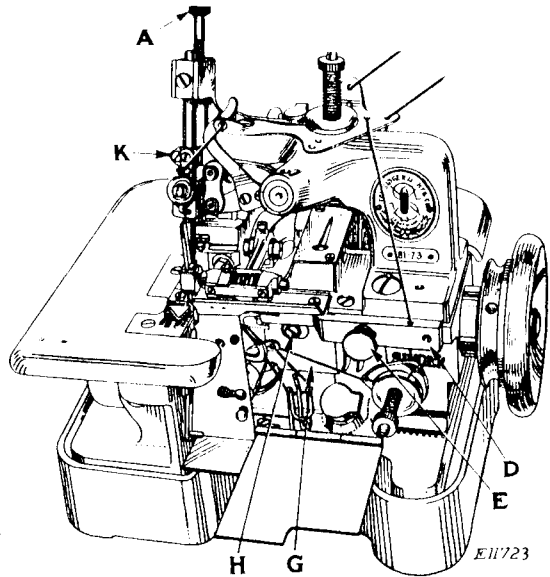
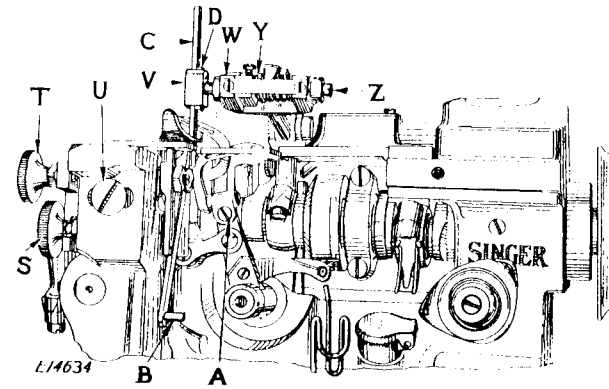

FIG. 13. ADJUSTMENTS ON THE MACHINE
FIG. 16. ADJUSTMENTS ON THE MACHINE
The pressure on the material is regulated by means of the thumb screw (A, Fig. 13). To increase the pressure, turn this thumb screw downwardly. To decrease the pressure, turn the thumb screw upwardly.
The length of stitch is regulated by means of the adjusting screw (H, Fig. 13) in the feed eccentric. **This screw faces directly outward.**
To change the length of stitch, turn the balance wheel until the lock screw in the feed eccentric appears in the hole of the cover (G, Fig. 13). **This screw faces slightly downward.** Loosen the lock screw. Then turn the balance wheel until the adjusting screw (H) is visible through the hole in the cover (G). Turn the adjusting screw (H) over to the right for a long stitch. Turn this screw over to the left for a short stitch. Then turn the balance wheel over until the lock screw appears and securely tighten this screw.
Now turn the balance wheel over from you until the needle bar has risen $\frac{3}{32}$ inch from its lowest position. The point of the left hand looper, on its loop taking stroke, should then be at the center of the needle, and the eye of the needle should be about $\frac{1}{16}$ inch below the looper point. If the needle bar is not at the correct height, loosen the pinch screw (K, Fig. 13) and move the needle bar upward or downward as required, then securely tighten the pinch screw (K).
The left hand looper should be set in the looper carrier by means of the screw (A, Fig. 16), so that the point of the looper on its loop-taking stroke passes as close as possible to the needle without striking it. The point of the right hand looper or spreader should pass at the recess back of the left hand looper eye as close as possible without touching it.
The lower knife (B, Fig. 16) should always be fastened in position when removing or replacing the upper knife. The lower knife is adjustable to the right or left and its position governs the position of the upper one, also the width of bight on the goods.
To Remove the Lower Knife (B, Fig. 16), loosen the thumb screw (T, Fig. 16) and draw the knife downwardly.
To Replace the Lower Knife, have the presser foot and feed down, press the upper knife holder (V, Fig. 16) toward the balance wheel, and push the lower knife upwardly so as to touch the presser foot without lifting it, then tighten the thumb screw (T, Fig. 16).
To Adjust the Trimmer Sidewise, loosen the thumb screw (E, Fig. 13) and move the extension bracket (D, Fig. 13) to the right or away from the upper knife, loosen the screw (U, Fig. 16) and turn the thumb screw (S, Fig. 16) inwardly or outwardly until the trimmer is in the desired position, then securely tighten the screw (U). Move the extension bracket (D, Fig. 13) back toward the upper knife, leaving just enough clearance between the upper knife and the bracket so as to allow free movement of the upper knife, then tighten the thumb screw (E, Fig. 13).
To Remove the Upper Knife (C, Fig. 16), loosen the screw (Z, Fig. 16) at the end of the knife holder, press the knife holder (V, Fig. 16) toward the balance wheel and remove the knife.
When replacing the Upper Knife, have the knife holder in the lowest position and pressed toward the balance wheel, insert the knife and set it so that its cutting edge is just below the cutting edge of the lower knife, then tighten the clamping screw (Z, Fig. 16).
If the desired trimming margin cannot be secured by these adjustments, it may be obtained by removing the gib (D, Fig. 16) and replacing it at the **left** of the upper knife. The lower knife should then be adjusted accordingly.
When the knives are in contact, the space between the guide (Y, Fig. 16) and the knife lever (W, Fig. 16) should be about $\frac{1}{32}$ inch.